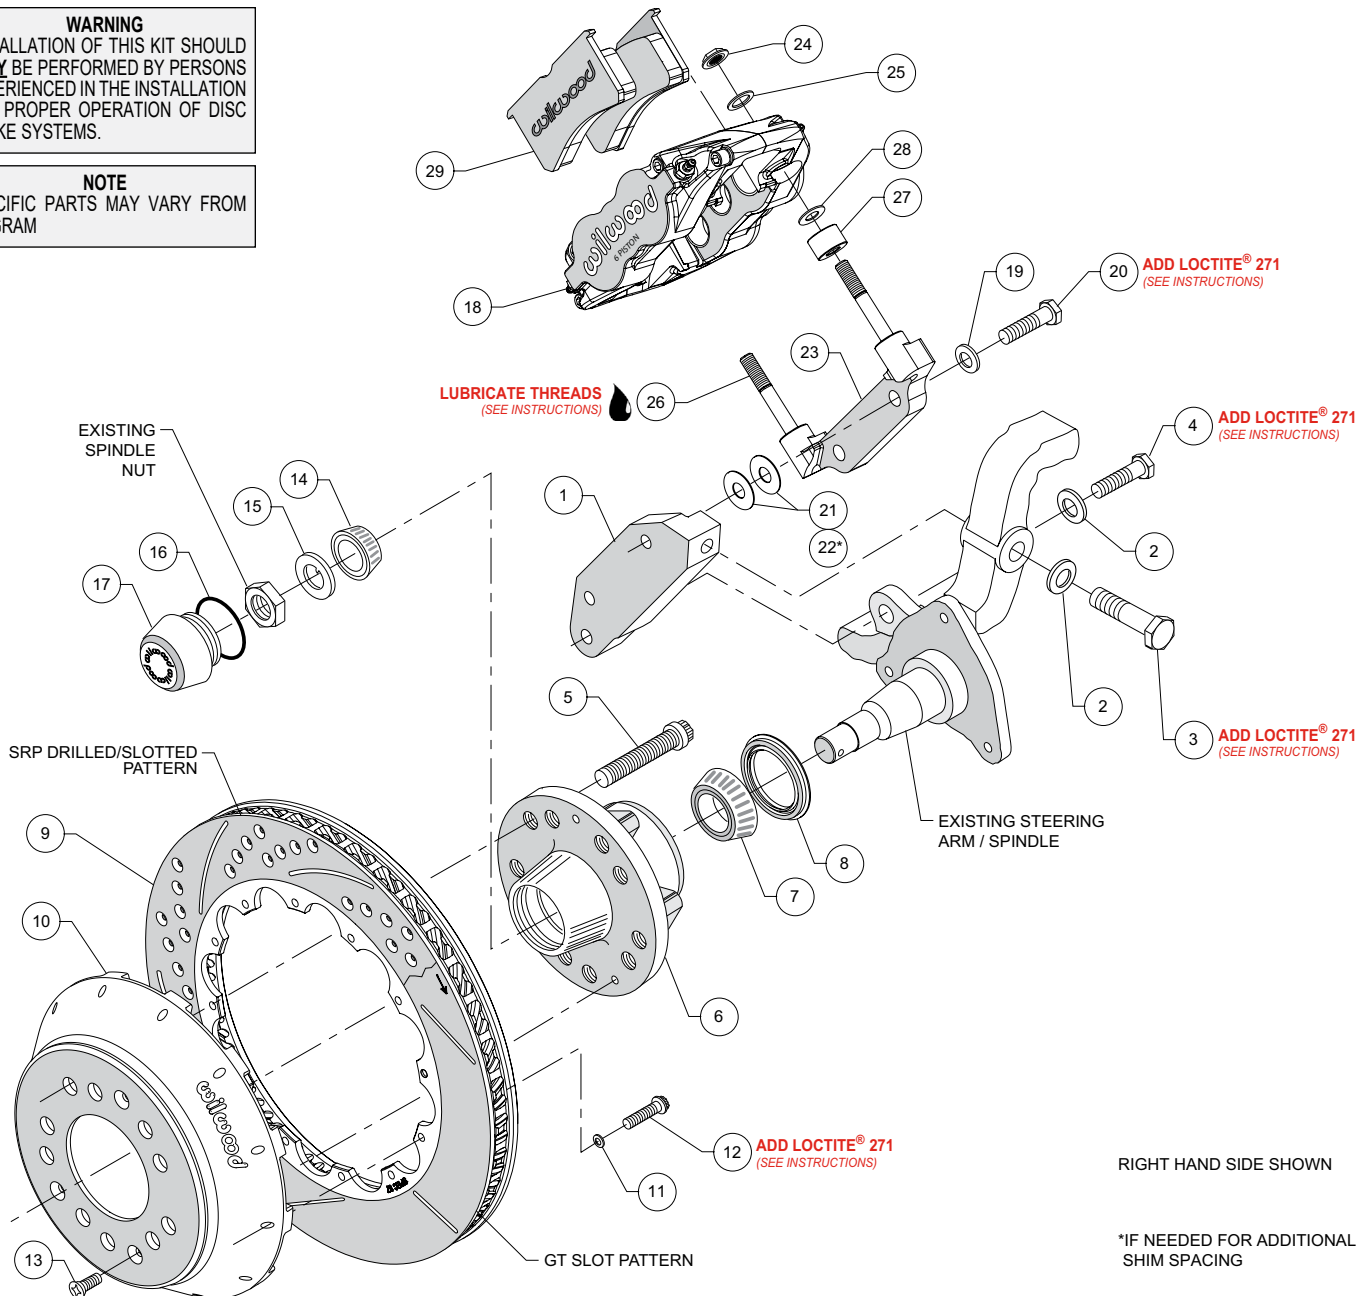
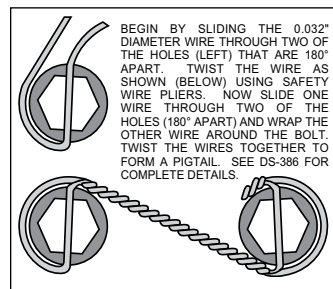

Figure 1. Typical Installation Configuration
Figure 3.
NOTE: Numbers in parenthesis refer to the parts list and Figure 1 on the preceding pages.
- Orient the spindle mount bracket (1), as shown in Figure 1, and attach to the spindle using bolt (3) and washer (2) in the upper hole, and bolt (4) and washer (2) in the lower hole. The bracket must fit squarely against the spindle mount points. Inspect for interference from casting irregularities, machining ridges, burrs, etc. Remove bolts one at a time, apply red *Loctite*® 271 to the threads, and torque to 77 ft-lb.
- Install wheel studs (5) into the hub (6), Photo 1. Torque to 77 ft-lb. **NOTE:** There are two five lug patterns in the hub (5 x 4.50 and 5 x 4.75). Ensure the correct hub stud pattern is being used to fit the wheel application.
- Pack the large inner bearing cone (7) with high temperature disc brake bearing grease (available from your local auto parts store) and install into the backside of the hub (6).
- Install the grease seal (8) by pressing into the backside of the hub (6), flush with the end of the hub, Photo 2.
- Pack the small outer bearing cone (14) with high temperature disc brake bearing grease and install into front of hub (6). Slide the hub assembly (6) onto the spindle. Secure using spindle washer (15) and OEM spindle nut, Photo 3. Adjust bearings per OEM specifications. Install saved OEM nut lock (if any) and a new cotter pin (not included).
- Screw dust cap (17) onto hub (6). Friction created by the o-ring (16) on the dust cap (17) keeps it from unscrewing. **NOTE:** The O.D. of the existing OEM spindle washer may be larger than the I.D. of the dust cap not allowing it to seat against the hub face. Therefore, use the spindle washer (15) supplied with the kit instead of the OEM washer.
- Orient the rotor (9) and the hat (10) as shown in Figure 1 and Photo 4. Attach rotor to hat using bolts (12) and washers (11). Apply red *Loctite*® 271 to the bolt threads and torque to 155 **in-lb** using a criss-cross pattern. For an added measure of security, the bolts may be safety wired using standard 0.032 inch diameter stainless steel safety wire as shown in Figure 3. Refer to Wilwood's data sheet DS-386 (available at www.wilwood.com/Pdf/DataSheets/ds386.pdf) for complete safety wire installation instructions.
- Orient the radial mount caliper bracket (23), as shown in Figure 1, and mount to the spindle mount bracket (1) using bolts (20), and washers (19). Initially place two .030" thick shims (21) on each bolt between the two brackets. Temporarily tighten the mounting bolts. Later, after the caliper alignment has been checked, the mount bolts will be secured using red *Loctite*® 271.
- NOTE:** *This kit contains distinct right and left hand calipers that must be mounted in a specific direction, as described below.* Lubricate the caliper mounting studs (26) with lightweight oil. Initially place spacer (27) and one .035" thick shim (28) on each stud between the caliper and the bracket, as shown in Figure 1 and Photo 5. Mount the caliper (18) onto the radial mount caliper bracket (23) using lock nuts (24) and washers (25), Figure 1. Ensure that the caliper is mounted so the largest pistons are at the rotor exit end of the caliper, in relation to the direction of rotor rotation. Temporarily tighten the lock nuts and view the rotor through the top opening of the caliper. The rotor should be centered in the caliper, Photo 6. If not, adjust by adding or subtracting .030" shims (21), or adding .016" thick shims (22), as necessary between the radial mount caliper bracket (23) and the spindle mount bracket (1). Always use the same amount of shims on each of the two mounting bolts (20). Once the caliper alignment is correct, remove the bracket mounting bolts (20) one at a time, apply red *Loctite*® 271 to the threads, and torque to 47 ft-lb.